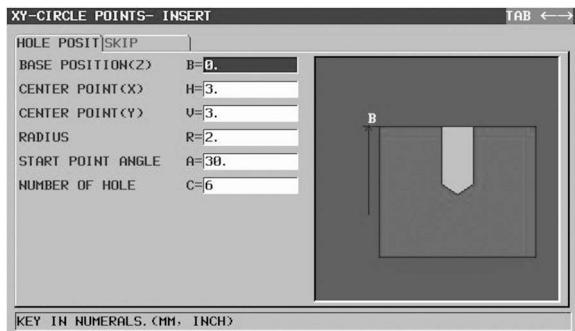

Figure 7-68 XY-CIRCLE POINTS,
- Complete the XY-CIRCLE POINTS dialog per Figure 7-68. Press the INSERT soft key.
- Place the cursor at the EOB character and press the START soft key. Choose item 4. CYCLE END from the list of options and press the INSERT soft key.